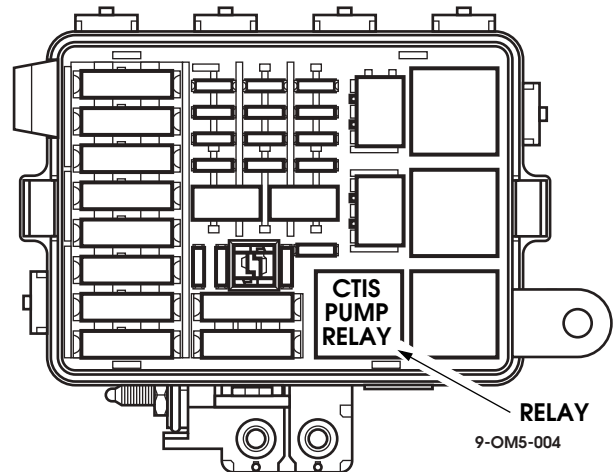

Figure 6-64: CTIS Compressor Relay Mounting
3. Remove relay from fuse box (Figure 6-64).
1. Install relay in fuse box (Figure 6-64).